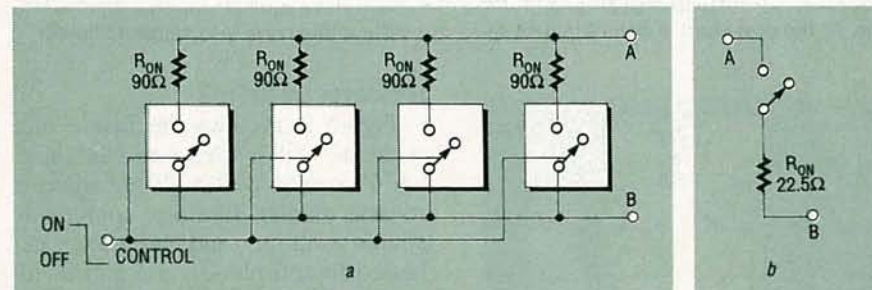

FIG. 11—BY PARALLELING FOUR SPST SWITCHES, the R_{ON} resistance can be reduced to only 22.5 ohms.
4. Each 4066B bilateral switch has a typical 90-ohm R_{ON} resistance. Figure 11 shows how four standard switch elements can be wired in parallel to make a single switch having only a 22.5-ohm R_{ON} resistance.